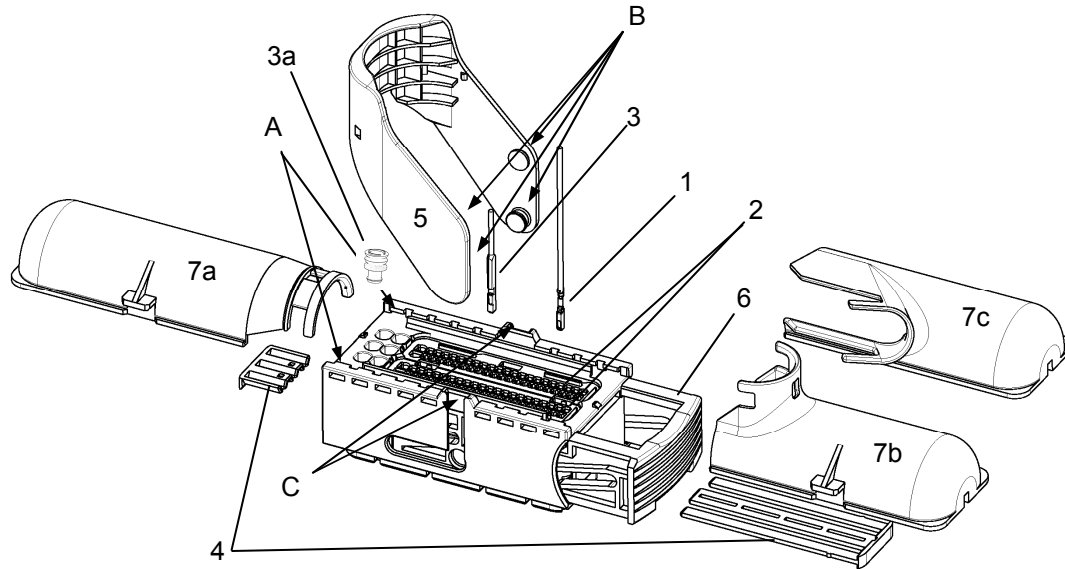

Figure 1 / Abbildung 1
After the complete loading, the secondary locks (4) must be displaced and locked. It will be possible without larger energy involved (<10N). If the secondary locks are clamped, the position of the contacts must be checked and corrected (contact not rested). For mounting the optional lever (5), the slide (6) must be extracted into pre-locked-position (as shown in figure 1) and then the lever must be pushed from top into the duct (C). It must be observed that on both sides the bolt (B) is in the duct (C). With pressure to the lower bolt the lever must be rested with the slide. The cover cap (7) is then suspended and rested. Assure that the cable exit shows in the right direction and the cover is in both ducts (A). The cables must be secured with a cable tie. Ensure that the lock of the cable tie does not hinder the movement of the slide and the lever (7a).
Zur Montage des optionalen Hebels (5) wird der Schieber (6) in Vorraststellung (wie in Abbildung 1) herausgezogen und der Hebel von oben in die Führung bis zum Anschlag eingeschoben. Dabei ist darauf zu achten, dass sich auf beiden Seiten die Bolzen (B) in der Führung (C) befinden. Den Hebel durch Druck auf die unteren Bolzen mit dem Schieber verrasten.